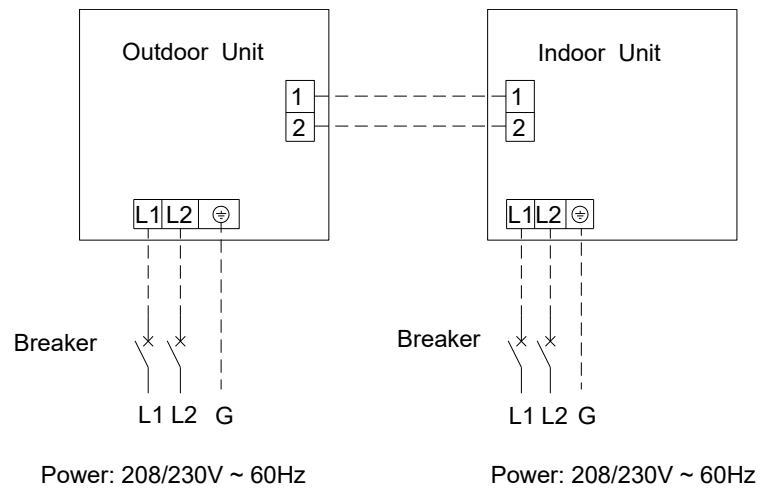

Figure 3-4-4
- ①. The power cord and the wire of the fresh air valve are high-voltage, while the communication cord and connection wire of the wired controller are low-voltage. They should run separately against electromagnetic interference.
- ②. The high-voltage and low-voltage lines should pass through the rubber rings at different electric box covers.
- ③. Do not bundle the connection wire of the wired controller and the communication cord together, or arrange them in parallel, otherwise improper operation would occur.
- ④. The high-voltage and low-voltage lines should be fixed separately and securely, with internal big clamps for the former and small clamps for the latter.
- ⑤. Tighten the indoor/outdoor connection cord and power cord respectively on the terminal boards with screws. Faulty connection may cause a fire.
- ⑥. If the indoor unit connection cord (to the outdoor unit) and power supply are wired incorrectly, the air conditioner may be damaged.
- ⑦. Connect the indoor unit connection cord properly based on the corresponding marks as shown in Figure 3-4-4.
- ⑧. Ground both the indoor and outdoor units by attaching a ground wire.
- ⑨. Unit shall be grounded in compliance with the applicable local and national codes.